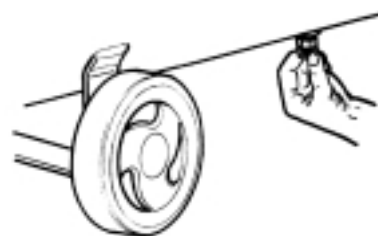

FIGURE 10 - DRAIN CONDENSATION
- Drain condensation from air receiver (Figure 10).